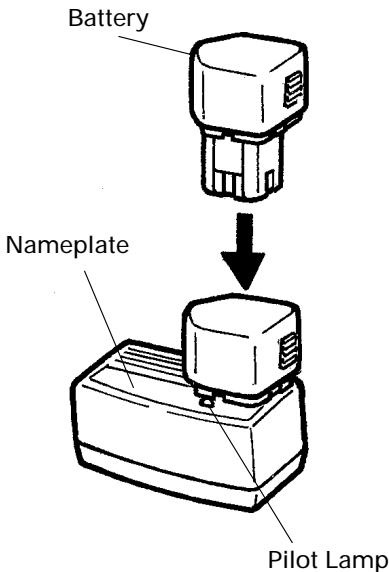

Fig. 9
1. Insert the battery to the battery charger. Insert the battery into the battery charger as shown in Fig. 9. Make sure it contacts the bottom of the battery charger.